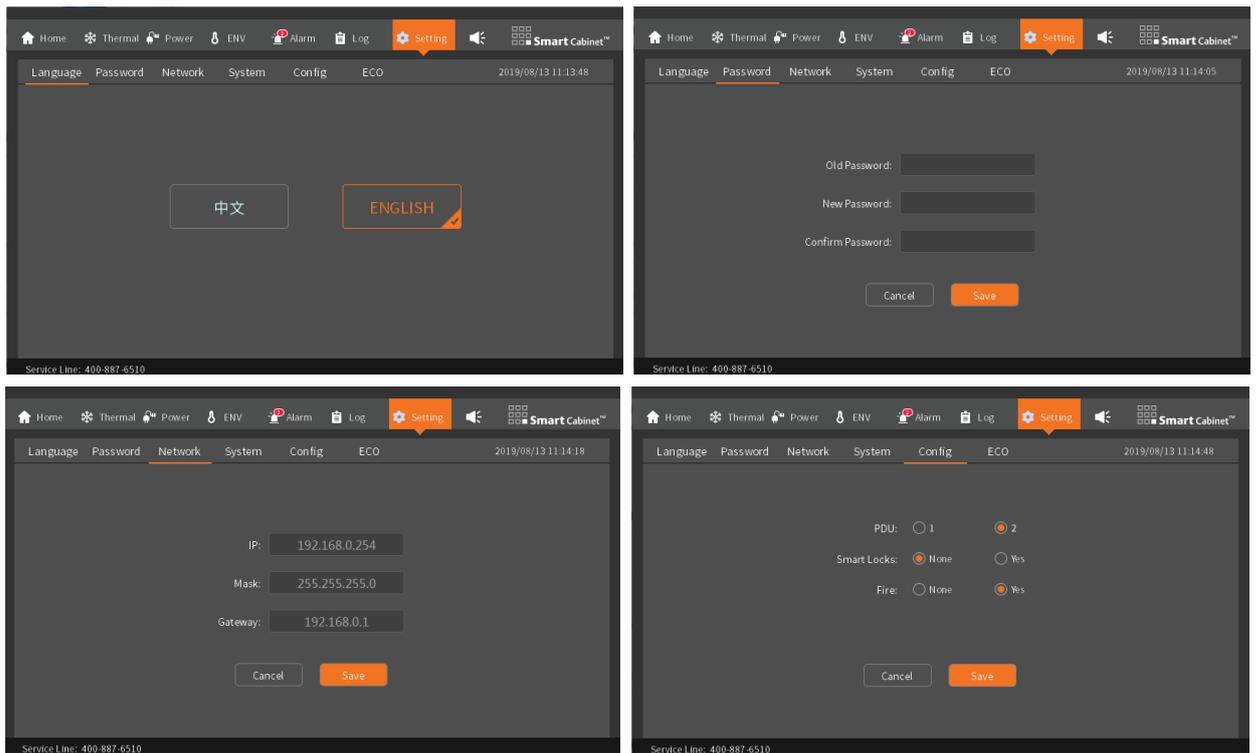

Figure 2-34 Setting screen
5. Press the ON button on the UPS panel for 2 seconds, and the LCD pops up a dialog box as shown in the Figure 2-34. When the user clicks “Yes”, the running indicator (green light) flashes, the inverter starts up, and the running indicator lights up.